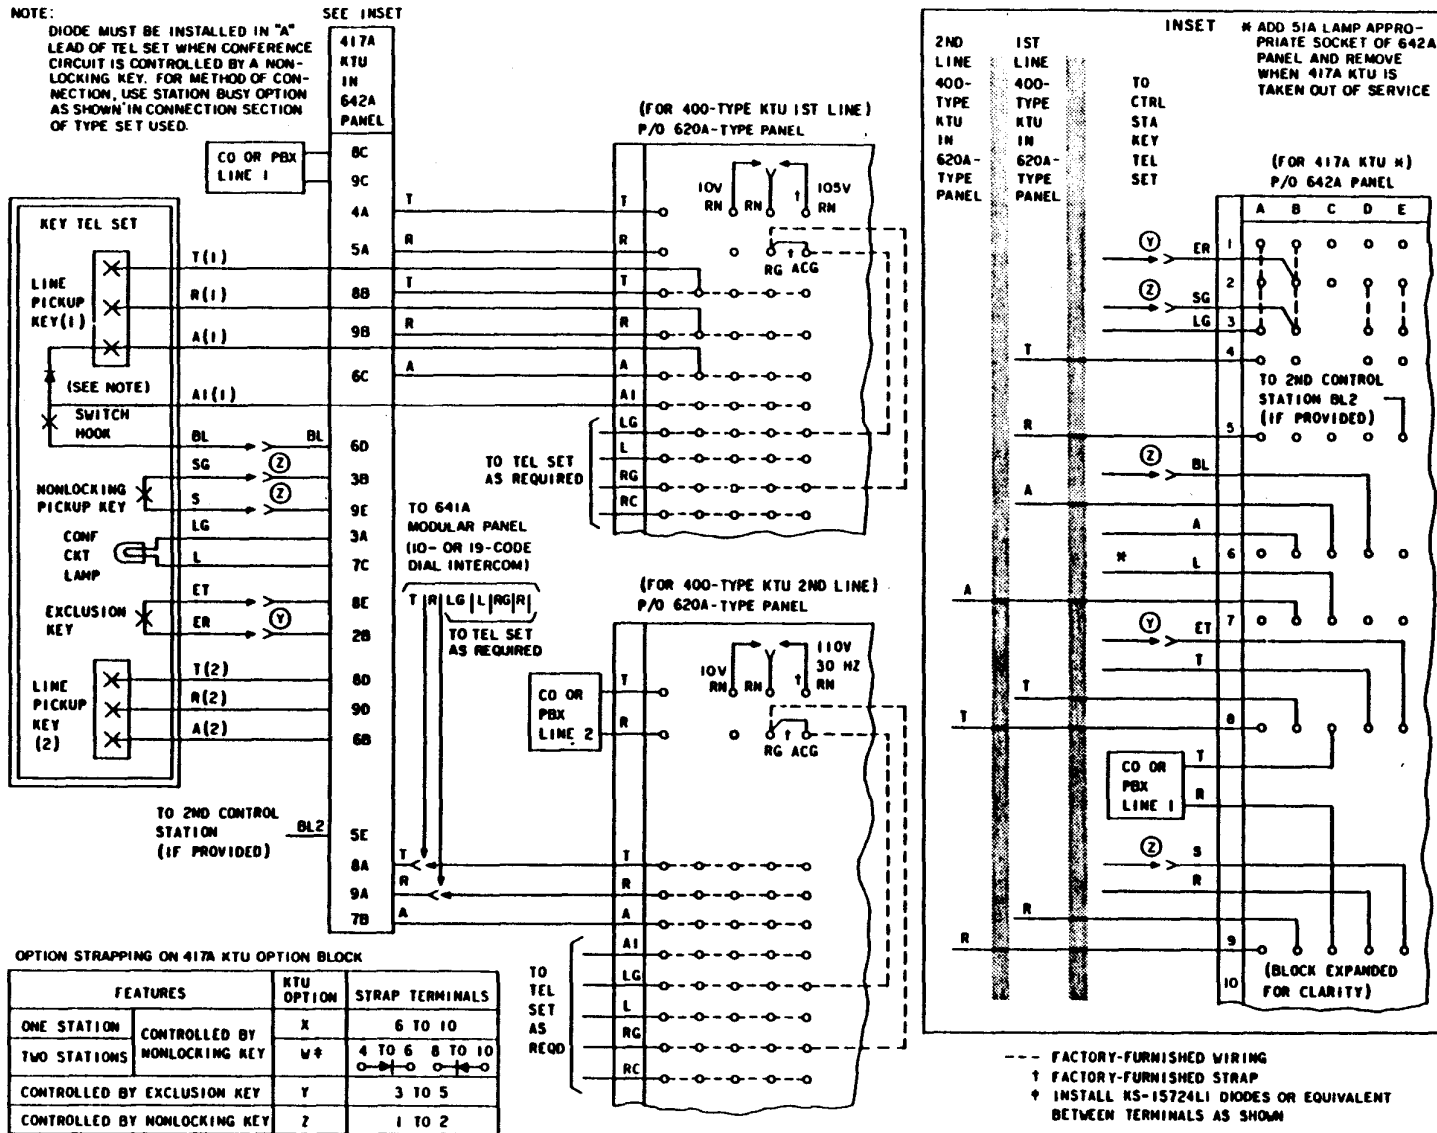

Fig. 41—417A KTU Connections (Add-On Conference Circuit) in 642A Modular Panel
**L. 417A KTU—Add-On Conference Circuit (Fig. 41)**